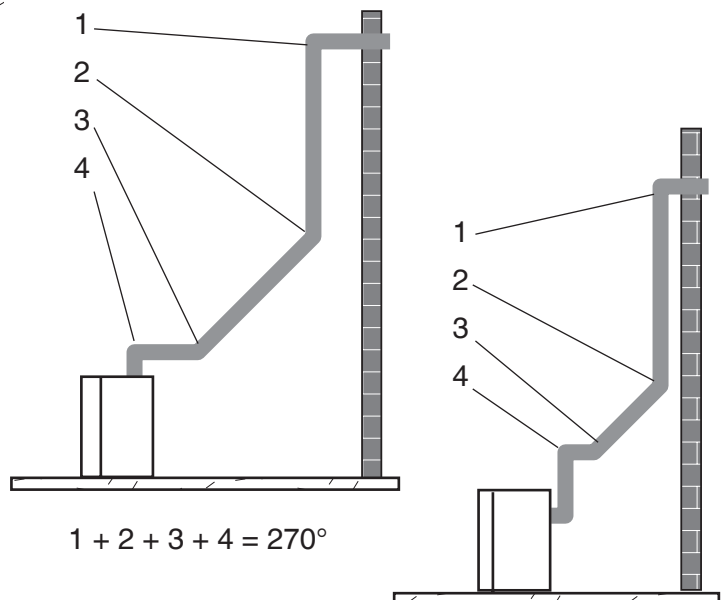

Figure 25 - Maximum Elbow Usage
- The maximum number of 45° elbows permitted per side wall installation is two (2). These elbows can be installed in either the vertical or horizontal run.
- The maximum number of elbow degrees in a system is 270°. See Figure 25.